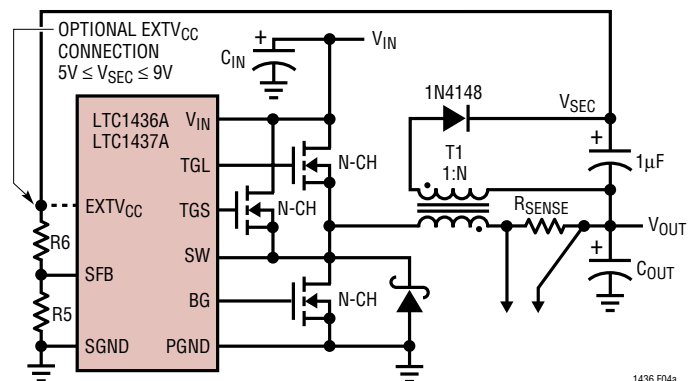
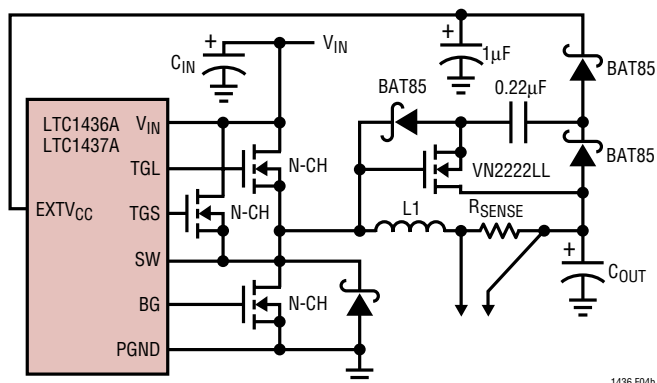

Figure 4a. Secondary Output Loop and EXT_V_{CC} Connection
Figure 4b. Capacitive Charge Pump for EXT V_{CC}
3. EXT_V_{CC} connected to an output-derived boost network. For 3.3V and other low voltage regulators, efficiency gains can still be realized by connecting EXT_V_{CC} to an output-derived voltage which has been boosted to greater than 4.8V. This can be done with either the inductive boost winding as shown in Figure 4a or the capacitive charge pump shown in Figure 4b. The charge pump has the advantage of simple magnetics.
The secondary output voltage is set by the turns ratio of the transformer in conjunction with a pair of external resistors returned to the SFB pin as shown in Figure 4a. The secondary regulated voltage V_{SEC} in Figure 4a is given by: